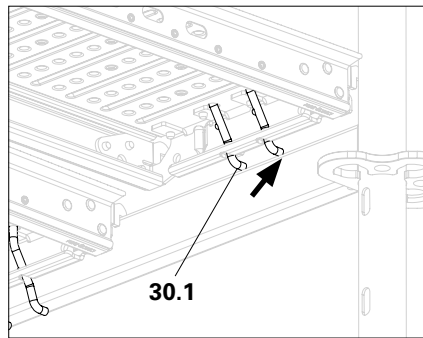

Fig. A4.04
3. Set the deck with the lift lock (**30.1**) down on the crossbar (**16.6**). (Fig. A4.04)